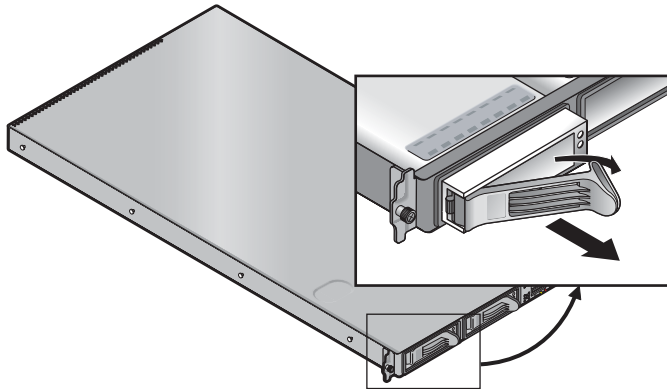

FIGURE 4-7 SCSI HDD Carrier and Release Latch
- b. Grasp the carrier bezel with both hands and carefully pull the carrier out of the drive bay (see FIGURE 4-7).